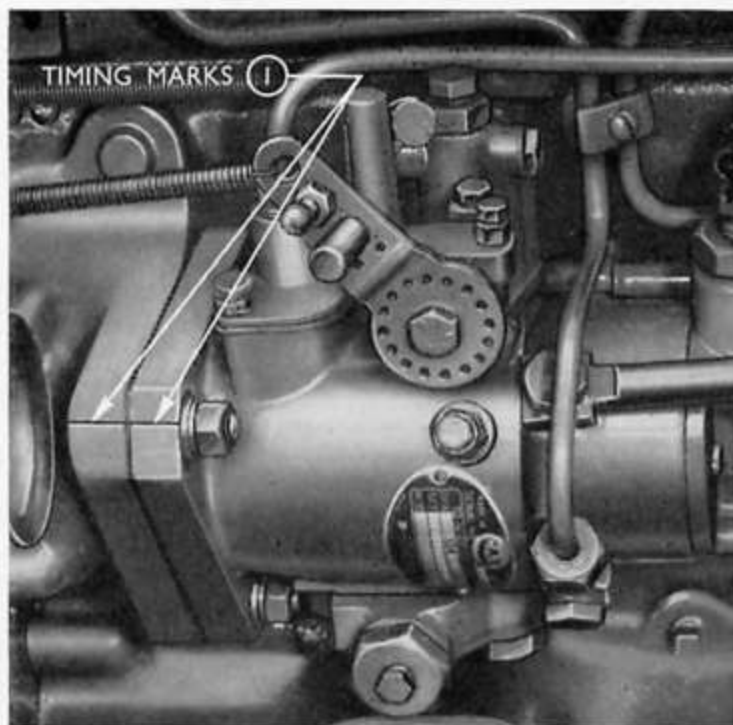

Fig. 34
The injection pump has a timing mark scribed on the mounting flange that aligns with a similar mark on the cylinder block (see Fig. 34).
2. Align the timing mark scribed on the injection pump mounting flange with the timing mark on the cylinder block (see Fig. 34). Fit the nuts (and the bolt on the 4/108), then tighten securely.